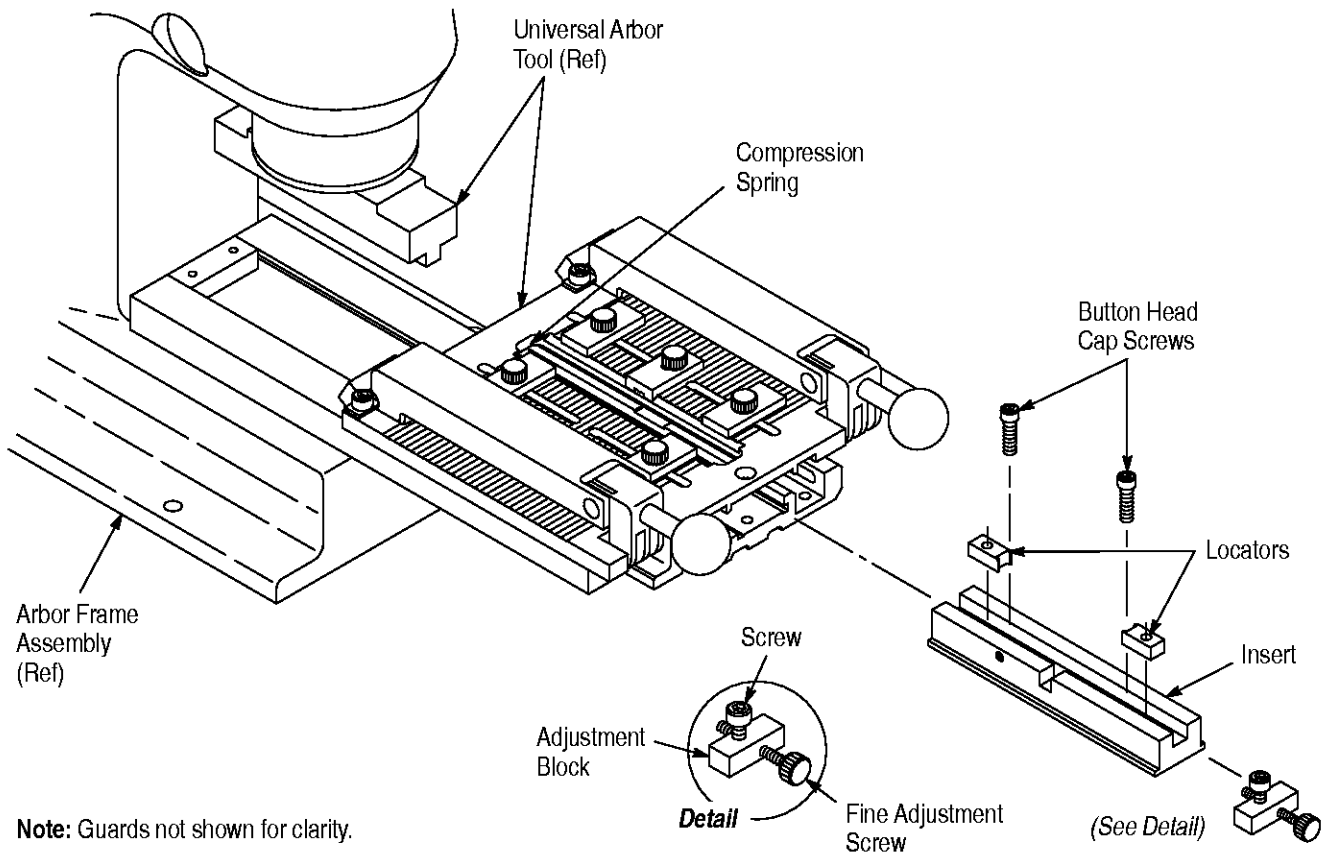

Figure 2
1. Position the locators, with the notched edges facing inward, onto the insert. Install, but do not tighten, the button head cap screws just enough to hold the locators in place. Refer to Figure 2.
4. Remove the screw that secures the adjustment block to the universal arbor tool, then remove the adjustment block. Slide the insert onto the base assembly until it is against the compression spring. See Figure 2.
5. Re-assemble the adjustment block. *Make sure* to orient the block so that the fine adjustment screw is closest to the right side and bottom side of the block. See detail in Figure 2.